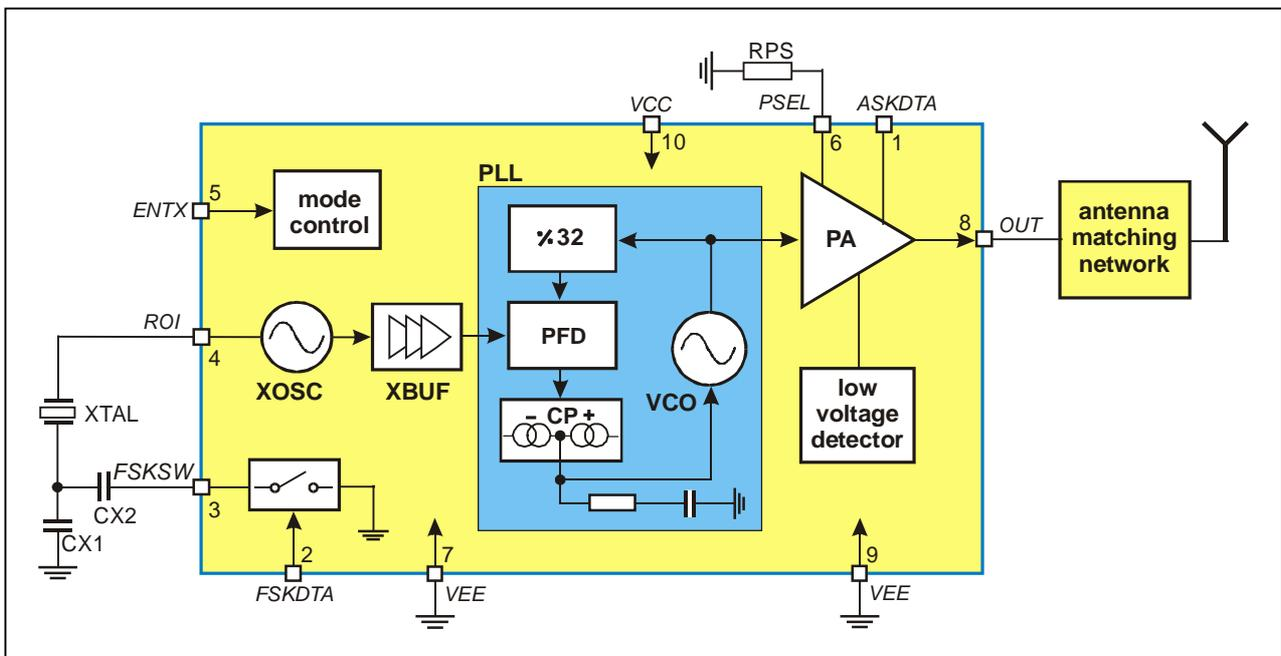

Fig. 1: Block diagram with external components
As depicted in Fig.1, the TH72035 transmitter consists of a fully integrated voltage-controlled oscillator (VCO), a divide-by-32 divider (div32), a phase-frequency detector (PFD) and a charge pump (CP). An internal loop filter determines the dynamic behavior of the PLL and suppresses reference spurious signals. A Colpitts crystal oscillator (XOSC) is used as the reference oscillator of a phase-locked loop (PLL) synthesizer. The VCO's output signal feeds the power amplifier (PA). The RF signal power P_{out} can be adjusted in four steps from $P_{out} = -11$ dBm to $+9$ dBm, either by changing the value of resistor RPS or by varying the voltage V_{PS} at pin PSEL. The open-collector output (OUT) can be used either to directly drive a loop antenna or to be matched to a 50Ohm load. Bandgap biasing ensures stable operation of the IC at a power supply range of 1.95 V to 5.5 V.